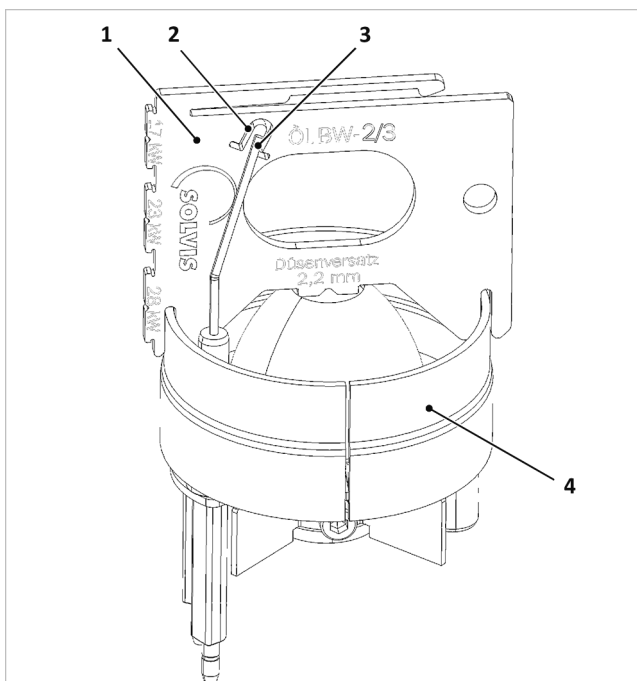

Fig. 145: Check the ignition electrodes
1. Check the position of the electrodes (3) as shown in → Fig. 145 and correct by bending them, if necessary.
2. Check the minimum length. The lower end of the control window (2) of the setting gauge specifies the minimum length of the ignition electrodes. If the electrodes are only slightly longer, they should be replaced.